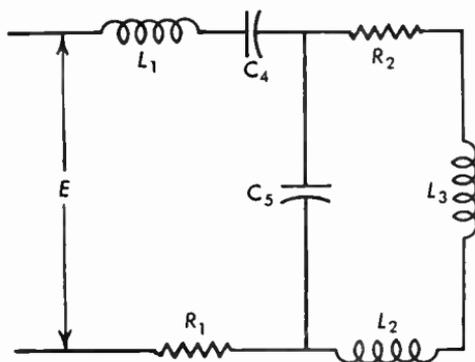

Fig. 3.21 Series-parallel network of impedance elements.
3.21 In Figure 3.21,  $L_1 = 0.005$  henry,  $L_2 = 0.002$  henry,  $L_3 = 0.001$  henry,  $R_1 = 400$  ohms,  $R_2 = 200$  ohms,  $C_4 = 0.1$  microfarad,  $C_5 = 0.05$  microfarad,  $E = 60$  volts, 6000 cycles. Find the total current  $I$  and the power factor.
In Figure 3.21,  $R_1$ ,  $X_1$ , and  $X_4$  are in series with the parallel branches  $Z_1$ ,  $Z_2$ . The branch  $Z_1$  is  $X_5$ , and the branch  $Z_2$  consists of  $R_2$ ,  $X_2$ ,  $X_3$  in series. To find the impedance of the parallel combination we first find the rectangular and the polar notations of  $Z_1$  and  $Z_2$ .